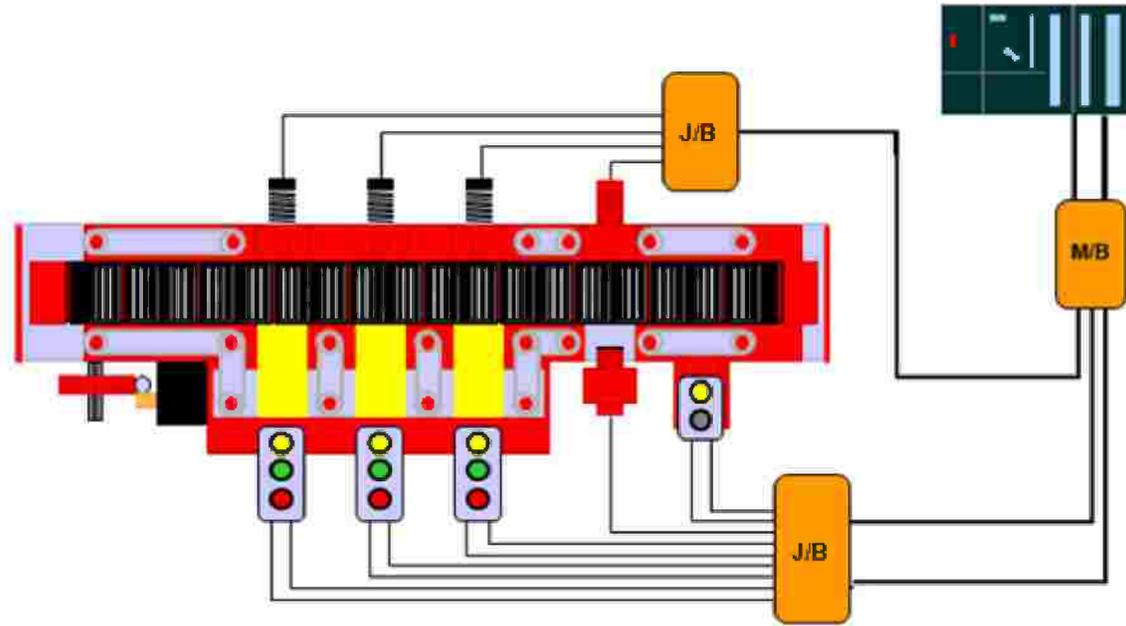

Figure 2-2 The AS- i certification symbol (shadow logo)
- 3) AS-i is a non-proprietary open standard: warranty that products are interchangeable, as proven by the certification delivered by AS-i association. Figure 2-2 shows the AS-i certification symbol (shadow logo).